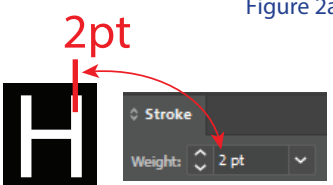

Figure 2b
- The smallest size for positive fonts is 8pts. Please refer to **Line Thickness** for negative fonts. (Figure 2b)
- Negative line (light line on dark background) prints best at 2pts thickness.(Figure 2b)